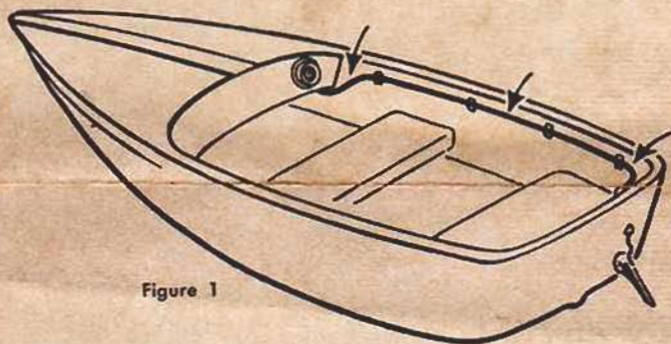

Figure 1
1. Locate pitot assembly on lower portion of boat transom. Pitot assembly base should be only  $\frac{1}{8}$  to  $\frac{1}{4}$  inch above boat bottom. (Fig. 1)